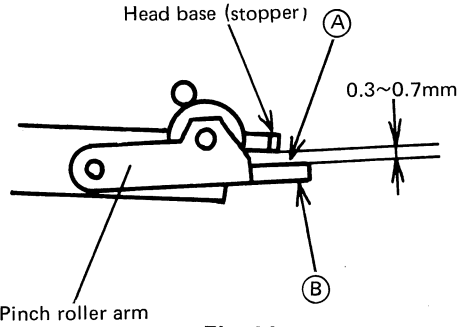

Fig. 14
Check to see that the gap between the stopper of head base and the pinch roller arm should be within 0.3 to 0.7mm. If it is beyond the limits, adjust it by bending the part ② of pinch roller arm as shown in Fig. 14.